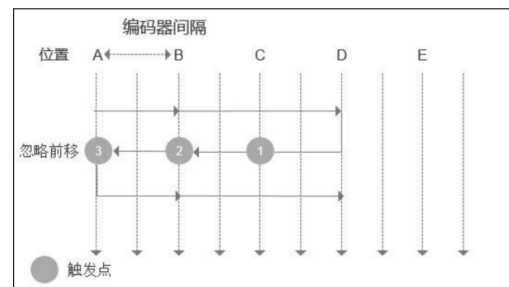

Figure 3.1.6 Ignoring Advance
(2) **Forward Movement Ignored:** Scanning is triggered only when the target object moves backward. If the target object moves forward, it must advance at least one encoder increment before triggering the next scan. As shown in Figure 3.1.6.